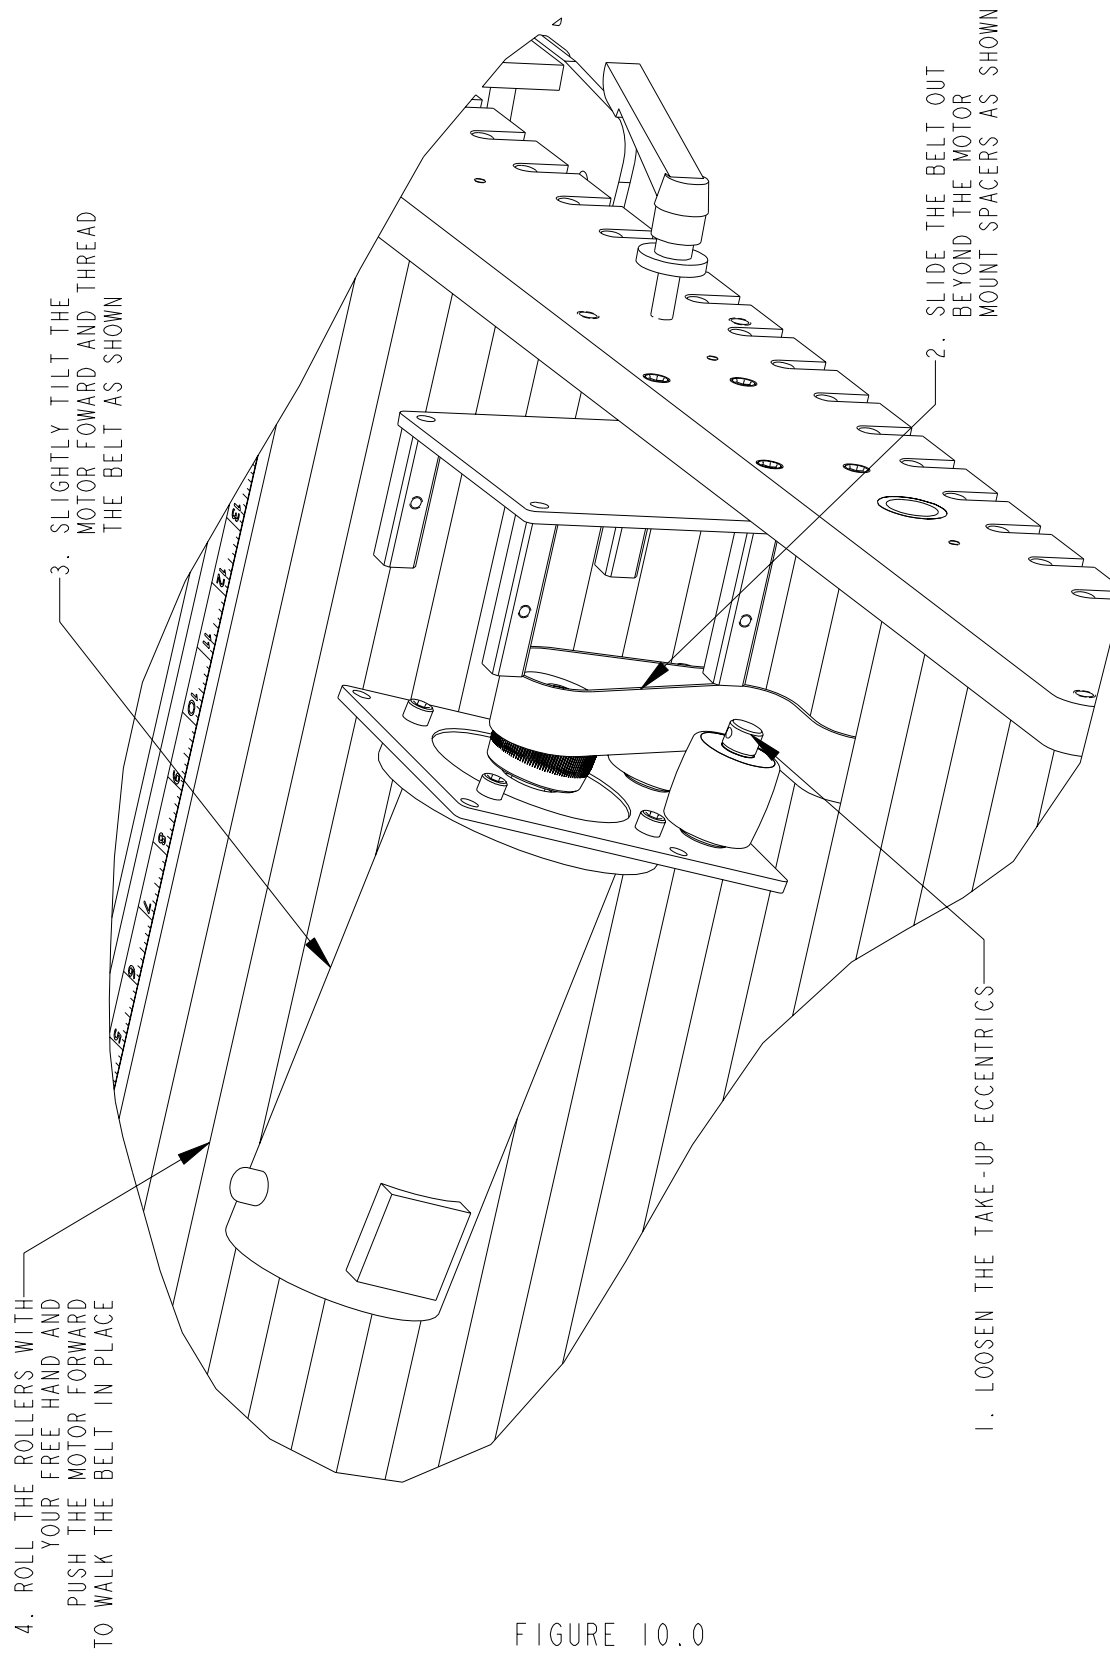

FIGURE 10.0
7.4 MAIN DRIVE BELT REPLACEMENT (see **Figure 10.0**)